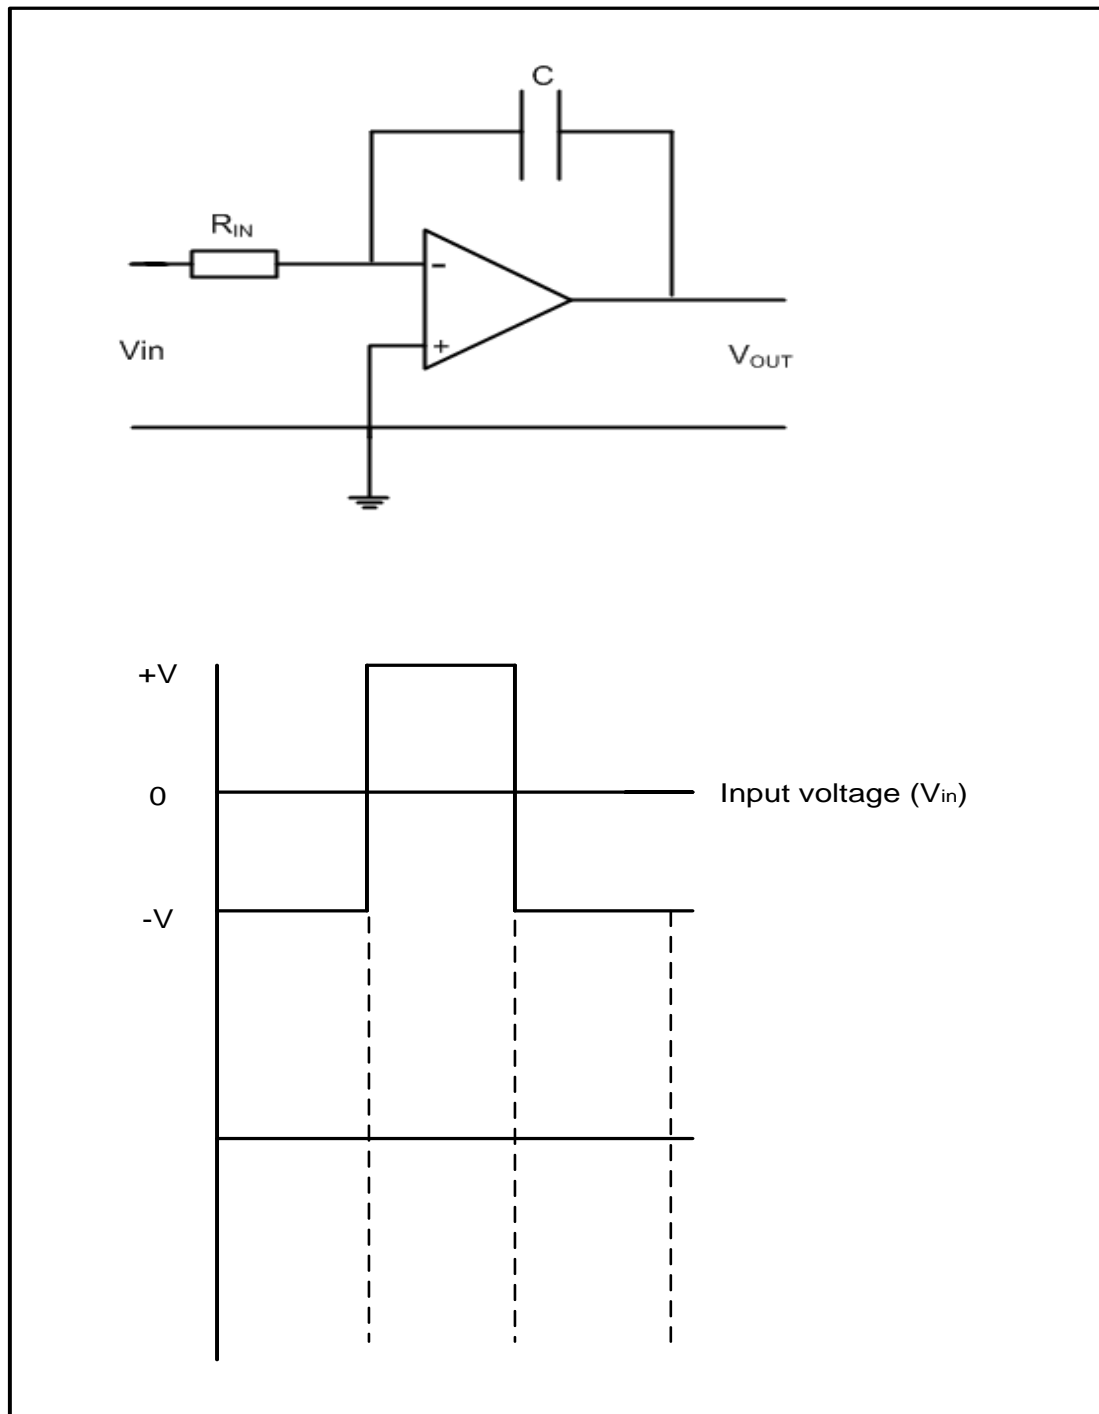

FIGURE 7.6: INTEGRATOR OP AMP CIRCUIT
7.6 Refer to FIGURE 7.6 below and answer the questions that follow.
- 7.6.1 Explain how the integrator circuit in FIGURE 7.6 can be changed to operate as an inverting operational amplifier. (2)